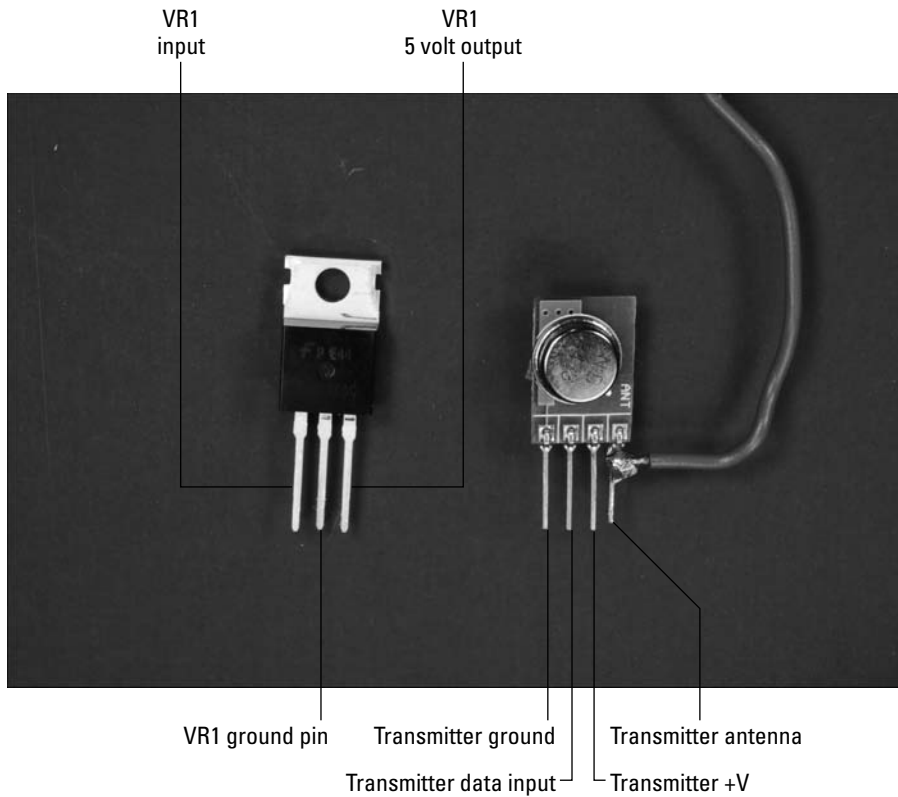

Figure 13-8:
2. Solder an antenna wire to Pin 4 of the transmitter module, as shown in Figure 13-8.